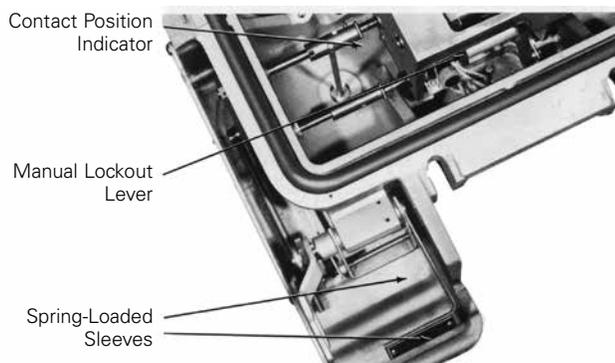

Figure 3. Spring-loaded sleeves of locknut lever and contact position indicator in engaged positions.
B. Disengage the lockout lever and the contact position indicator by pushing the spring-loaded couplers inward (Figure 3).